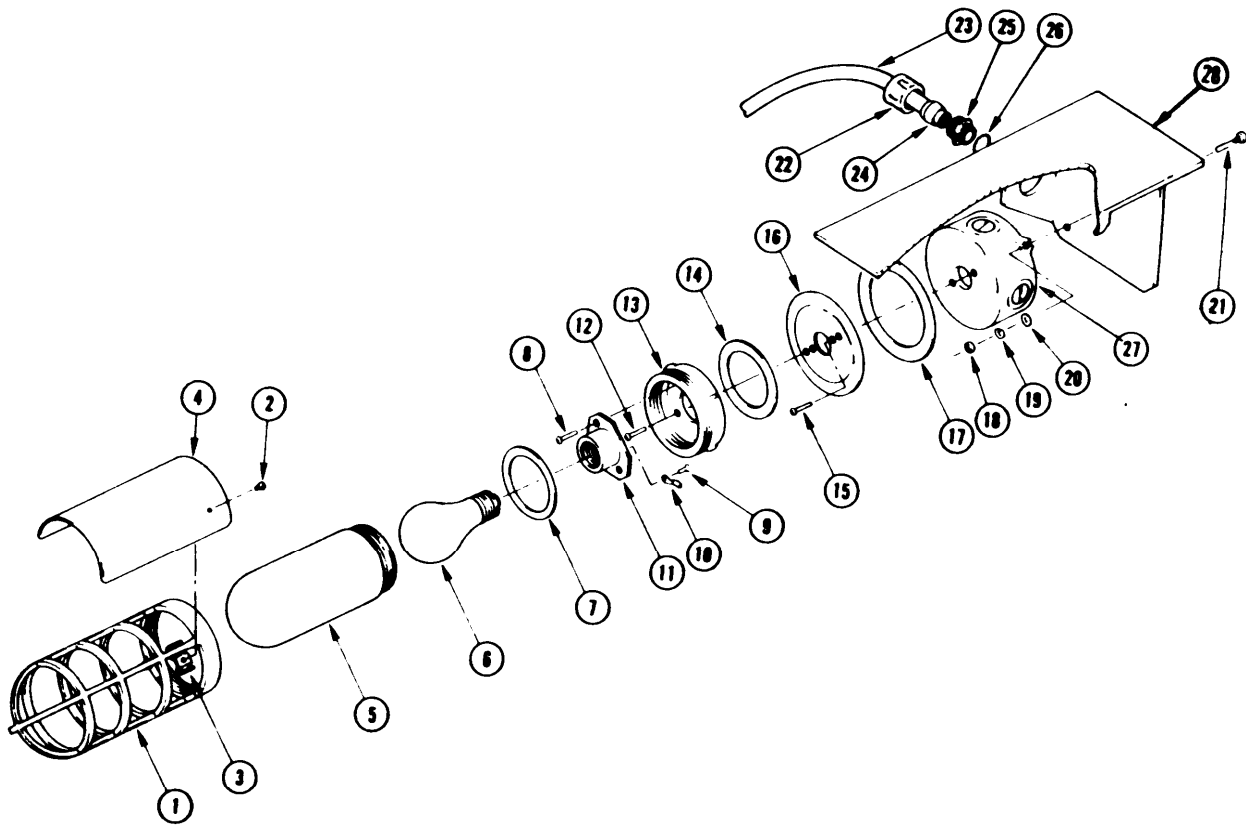

Figure 2-75. Panel Light Assembly
b. Removal. (Figure 2-75)
(1) Replace bulb, if necessary.
(2) Replace all O-rings, gaskets, and damaged hardware.
(3) Replace ceramic sockets if unserviceable.
(4) Replace globe, if cracked.
f. Installation. (Figure 2-75)
(1) Slide compression nut (22) down cable (23).
(2) Slide compression fixture (24) down cable (23).
(3) Install cable grip nut (25) and O-ring (26) in splice box (27).
(4) Pull wire through cable grip nut (25) and feed through hole in splice box (27).
(5) Slide compression fixture (24) and compression nut (22) up cable (23) to cable grip nut (25).
(6) Connect compression nut (22) to cable grip nut (25).
(7) Hold splice box (27) in place.
(8) Insert two screws (21) through mounting bracket (28) and splice box (27).
(9) Install two flat washers (20), two lockwashers (19), and two nuts (18) on screw (21).
- (10) Feed wires through gasket (17) and adapter ring (16).